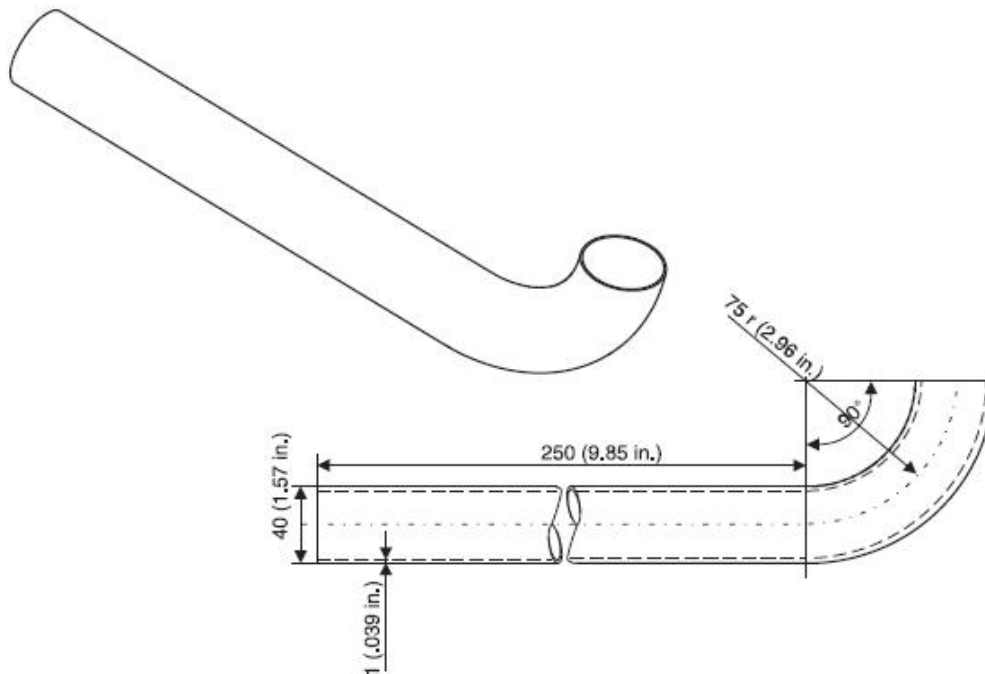

Fig.17
**Exhaust elbox(tailpipe)** (see Fig 17), Material/thickness: X5 CrNi 189(DIN 1.4301)( stainless steel); a=1 mm (0.04 in).